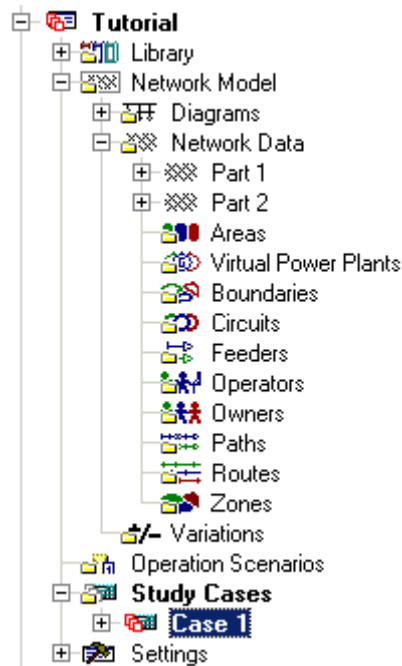

Fig. G.1: Database tree
- ▶ Expand the Tutorial project in the tree. The Tutorial project should now look like depicted in the figure G.1. Both the Tutorial project and the study case should be active (red coloured icons).